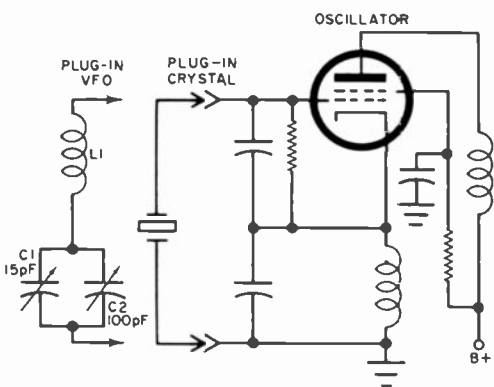

Fig. 1. To convert this crystal-controlled oscillator to a series-tuned Colpitts VFO, simply replace the crystal with the L-C combination shown.
**When It Can Be Used.** If your transmitter employs any variation of the basic grid-plate oscillator shown in Fig. 1, you're in! Observe that there's an r.f. choke in the cathode of the oscillator tube, and that the crystal is connected between grid and ground. Note also that a feedback path is provided from cathode to grid via a capacitance divider.
**How it Works.** The two independent gates in *IC1* (Fig. 1) are biased in their class A region using resistors *R1* and *R2*. These two gates are cascaded with *C1* to form a two-stage, RC-coupled r.f. amplifier. Feedback from output to input via *XTAL* produces the desired oscillation, in the form of a square wave very nearly equal to the crystal's series-resonant frequency.
Fig. 1. The IC contains the bulk of the oscillation circuit. The only external components are bias resistors *R1* and *R2*, feedback capacitor *C1*, and the frequency controlling element, *XTAL*. Output is a square wave at the crystal frequency. The d.c. level required for operation is not critical—between 1.5 and 4.5 volts.